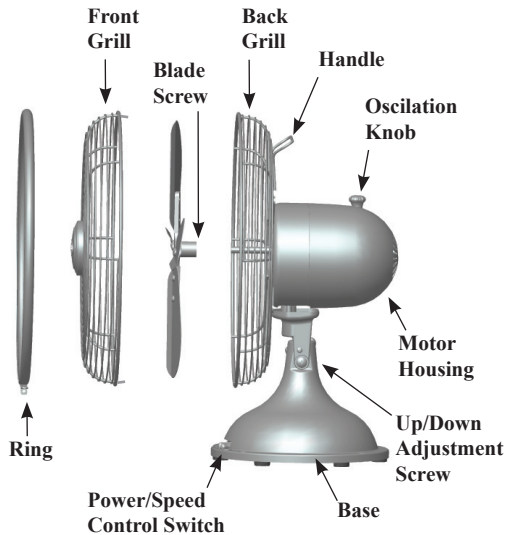

Figure 7
2. Disassemble grills by carefully removing the screw on the bottom of the ring. See Figure 7.